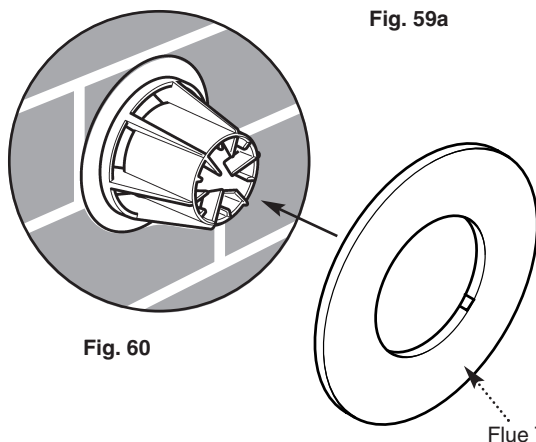

Fig. 60
10. The flue trim provided may be fitted if required, to neaten up the make-up around the terminal (Fig. 60).